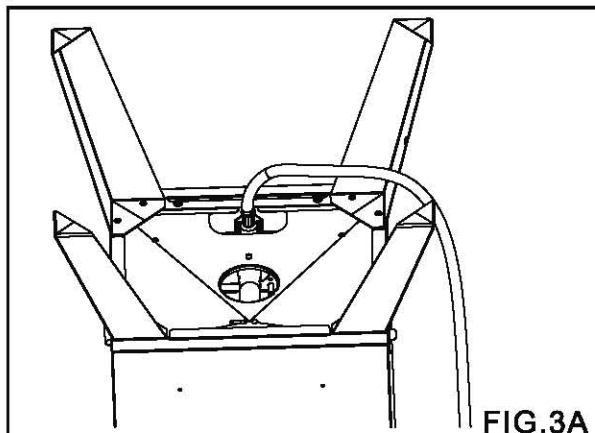

FIG.3A
1. You must insert the end of the hose-valve-regulator [15A], through the "D" shaped hole (see Fig.3A).